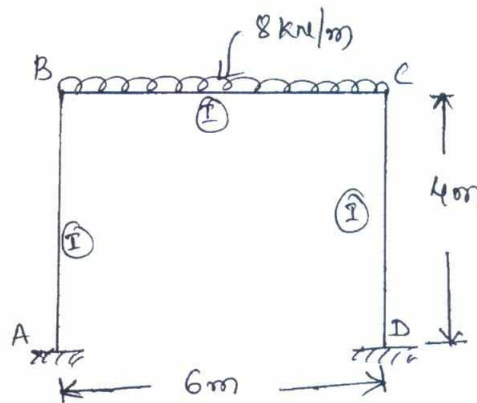

Fig. Q8(b)
b. Determine natural frequency and period of the system as shown in Fig. Q8(b). Take $I = 6.5 \times 10^7 \text{ mm}^4$ and $E = 2 \times 10^5 \text{ N/mm}^2$. (12 Marks)